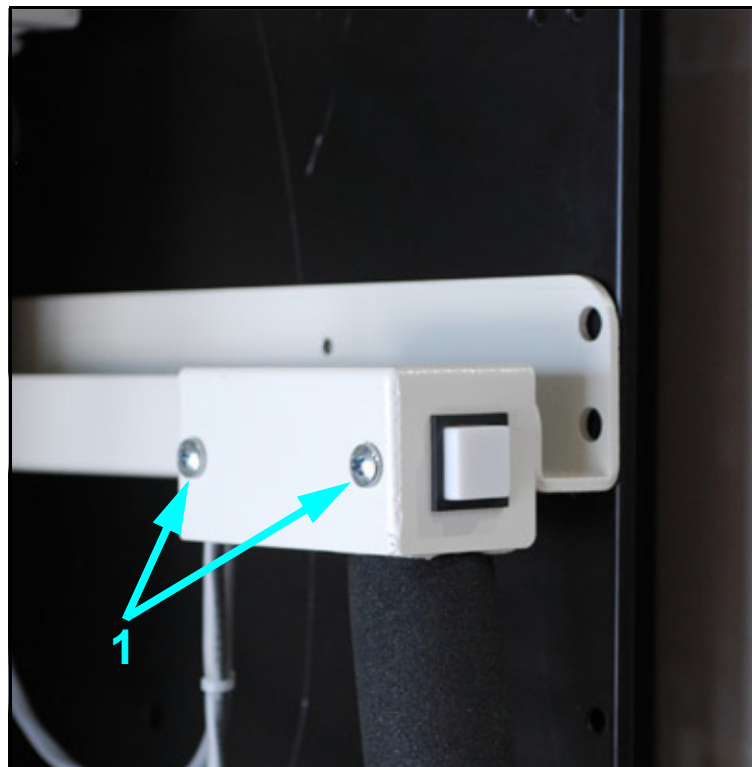

Figure 5-5. Locking Mechanism
- 4 Unscrew the locking mechanism(1 in Figure 5-5) to the handle.